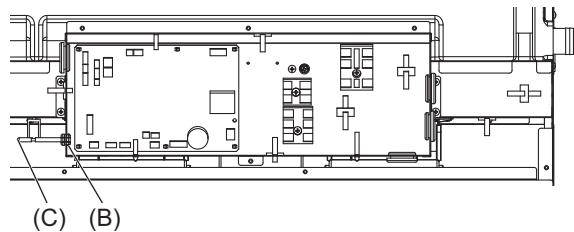

Fig.9
(1) Pull out the thermistor holder (B) and thermistor (C) on the control box in Fig.9.